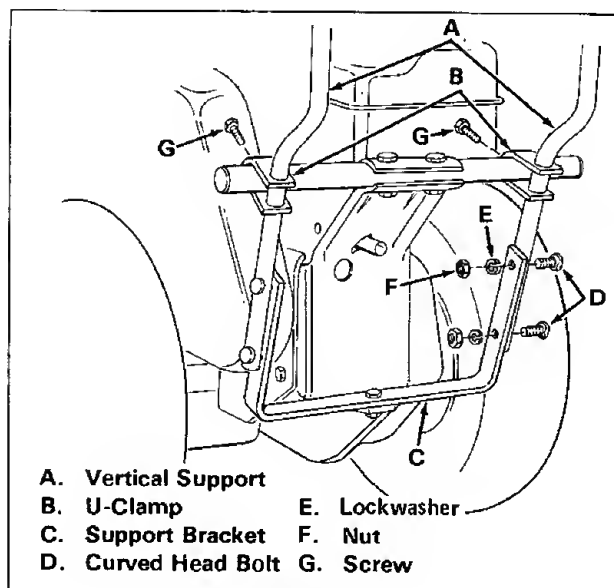

Figure 8
1. At the rear of the riding mower, slip the vertical supports (item A, figure 8) through the U-clamps (item B) and align the bolt holes in the vertical support with those in the support bracket (item C) attached to the drawbar. Install the vertical supports with the bend to the rear as shown.
4. Tighten the screws (item G, figure 8) in the U-clamps to hold the vertical supports.